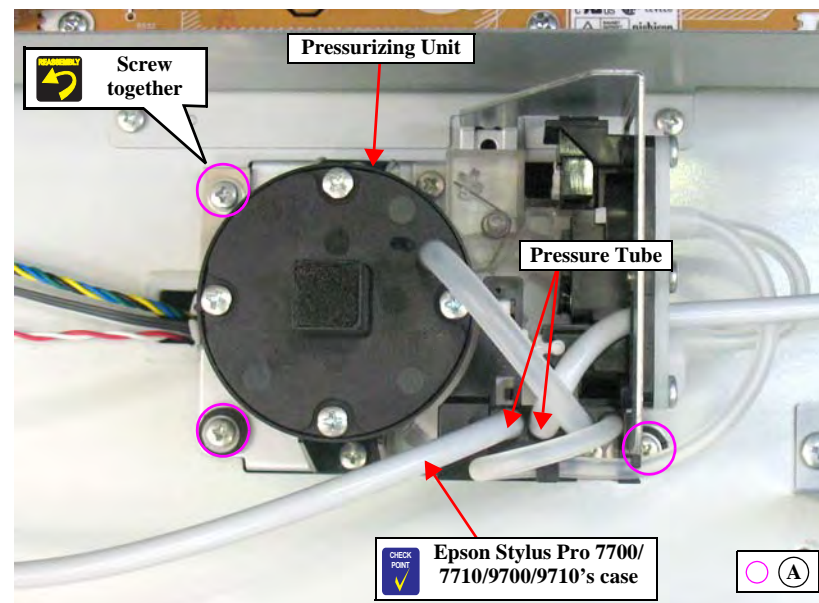

Figure 4-122. Removing the screws securing the Pressurizing Unit
*NOTE: In Epson Stylus Pro 7700/7710/9700/9710's case, disconnect only the Pressure Tube shown in Figure 4-122.*